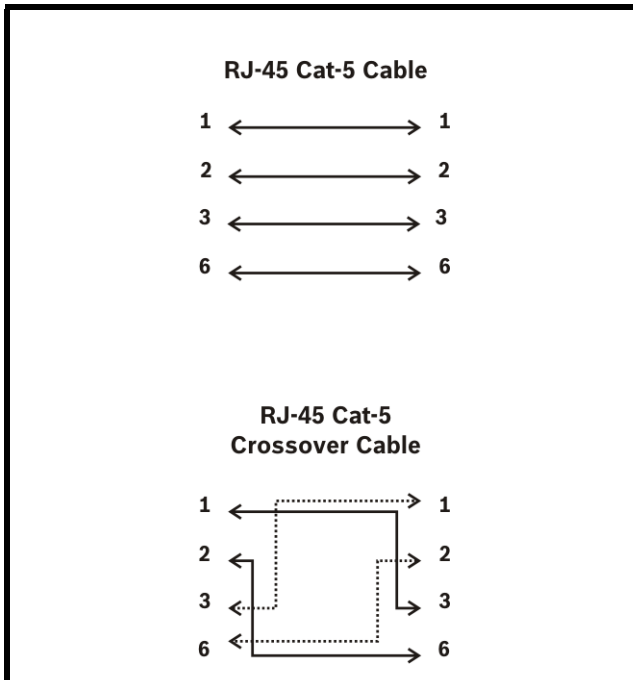

FIGURE 19. RJ-45 Straight Cat-5 and RJ-45 Cat-5 Crossover Cable
- Using a fabricated CAT-5 crossover cable and connecting directly to the AZedit computer. (For the CAT-5 crossover cable pin out, see Figure 19 on page 27.)
By default, Zeus III is shipped with the IP Address 192.168.0.9 and the Network Mask 255.255.255.0. To change the IP Address, you must initially connect either serially or via USB. For crossover cable construction, see Figure 19 on page 27.